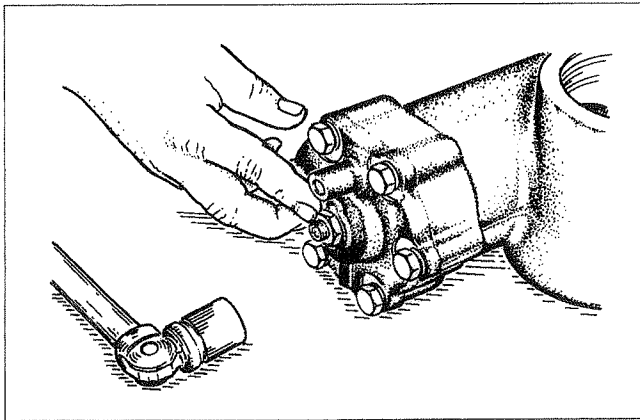

Figure 48
4. Tighten the adj. screw with a 6mm allen wrench to lift off the indexed brg. Change O-ring (Figure 48).